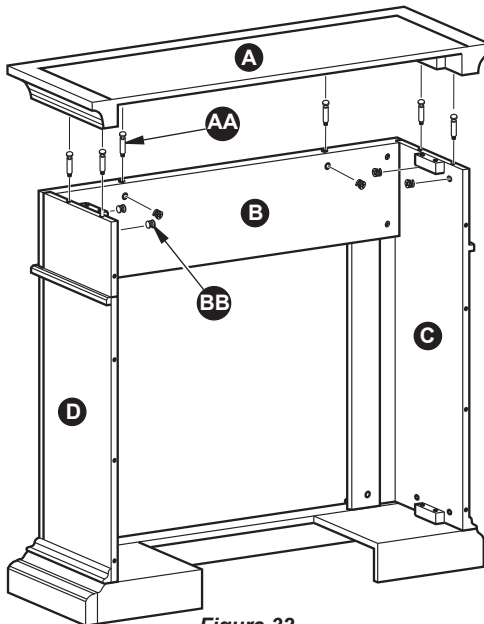

Figure 32
4. Insert 6) Cam Locks (BB) into assembled frame (B,C,D). Screw 6) Cam Dowels (AA) into Top (A). Attach Top (A) into assembled frame by tightening the Cam Locks (BB) as shown in Figure 32.